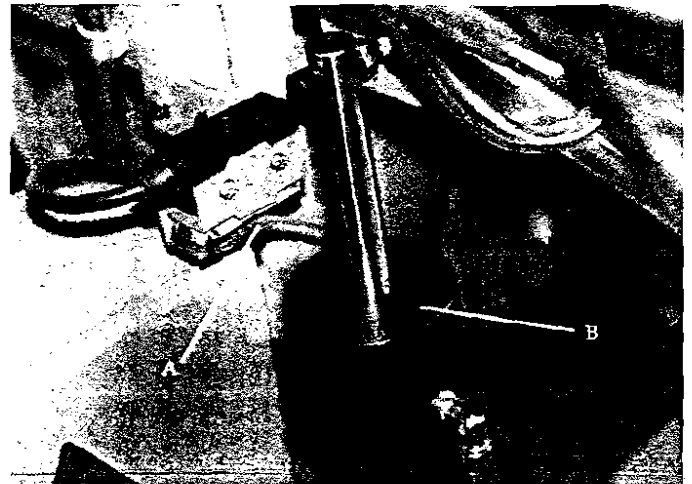

FIG.11
On machine equipped with 115/230 Volt, single Phase; 230/460 Volt, Three Phase; 200 Volt Three Phase; or 52-402. 575 Volt Three Phase Electrical, Kits, the machine and any accessories which are wired into the electrical system are controlled by the start-stop buttons. The machine will automatically shut off when the cut is completed. The lever (A) Fig. 11, for the automatic shut-off contacts the top of the hydraulic cylinder (B) and shuts off the machine.
2. Turn cover (B) shown in Fig. 11 counterclockwise, then fill hydraulic oil or equivalent in till it is full.